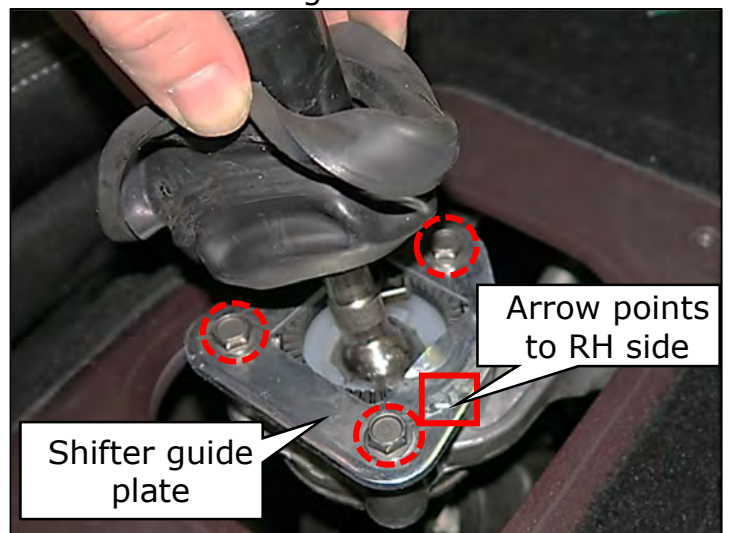

Figure 101
- Push the shifter down until the shifter guide plate is flush with the transmission bracket (Figure 101)
- Start the (3) bolts by hand